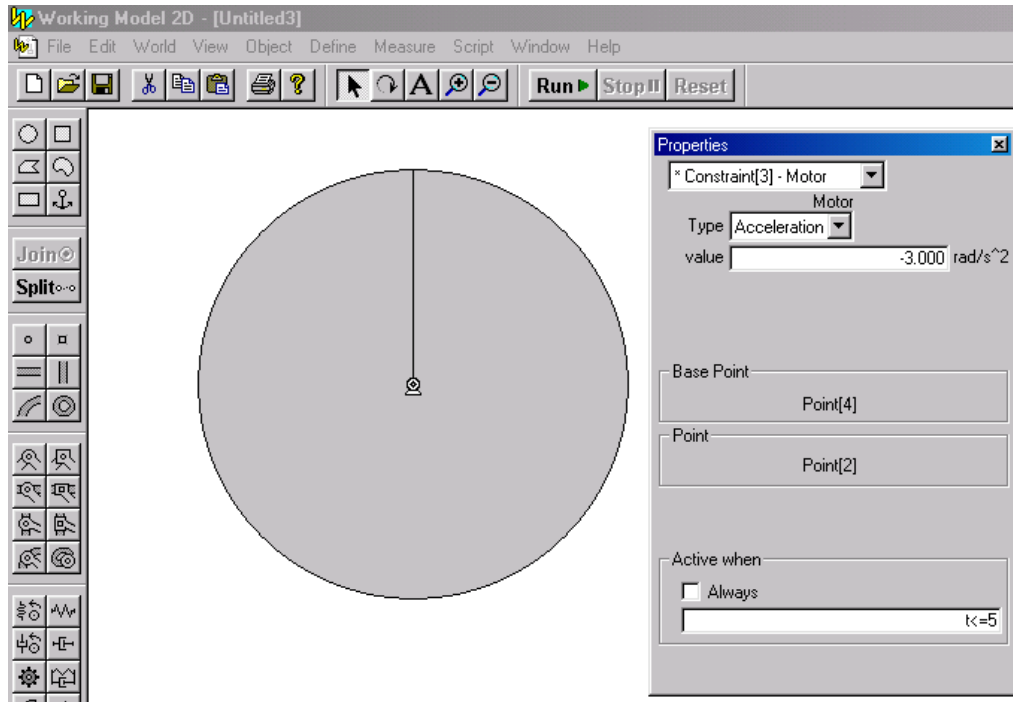

Figure 2
5. Select the motor by a left-click on the already-positioned motor icon and go to Window menu and select Properties menu item. This will bring in a pop-up window with Motor properties (See Figure 2).